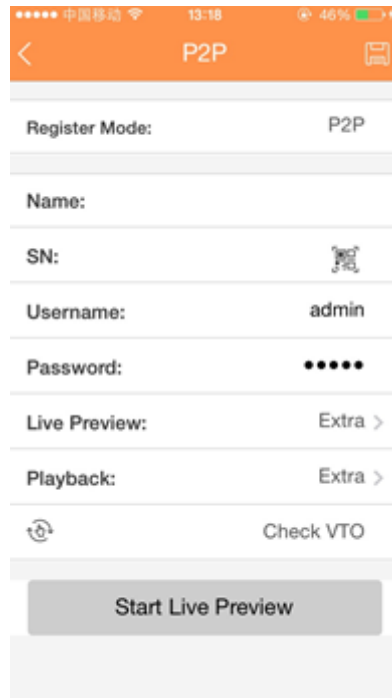

Figure 4-63
- Tap Device manager button, you can use several modes (P2P/DDNS/IP and etc) to add the device. Click  to save current setup. Tap Start Live preview to view all-channel video from the connected device. See Figure 4-63.